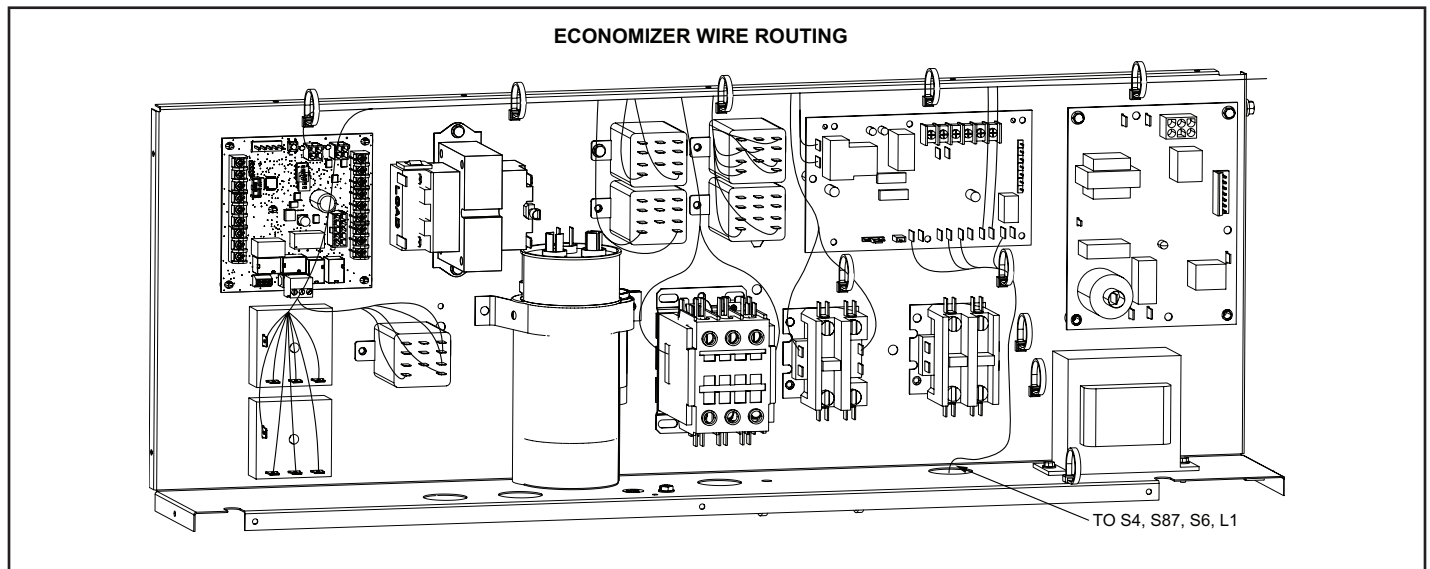

FIGURE 24
- 1 - The economizer control module is located below the actuator for shipping. Relocate the control to the unit control box, see FIGURE 24.
- 1 - Route the control wires to unit terminal block (TB1) and connect these wires to TB1 as following (see FIGURE 24):